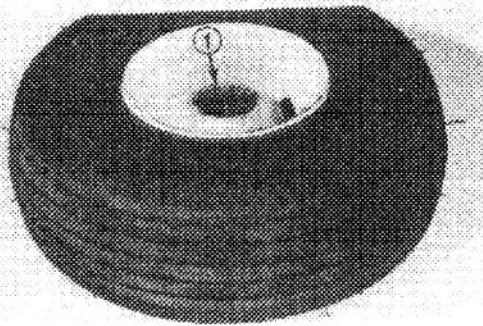

Figure 51
3. Remove bearings from wheel hub (Fig. 51). Clean the bearings in solvent and make sure they are in good operating condition. Also clean the inside